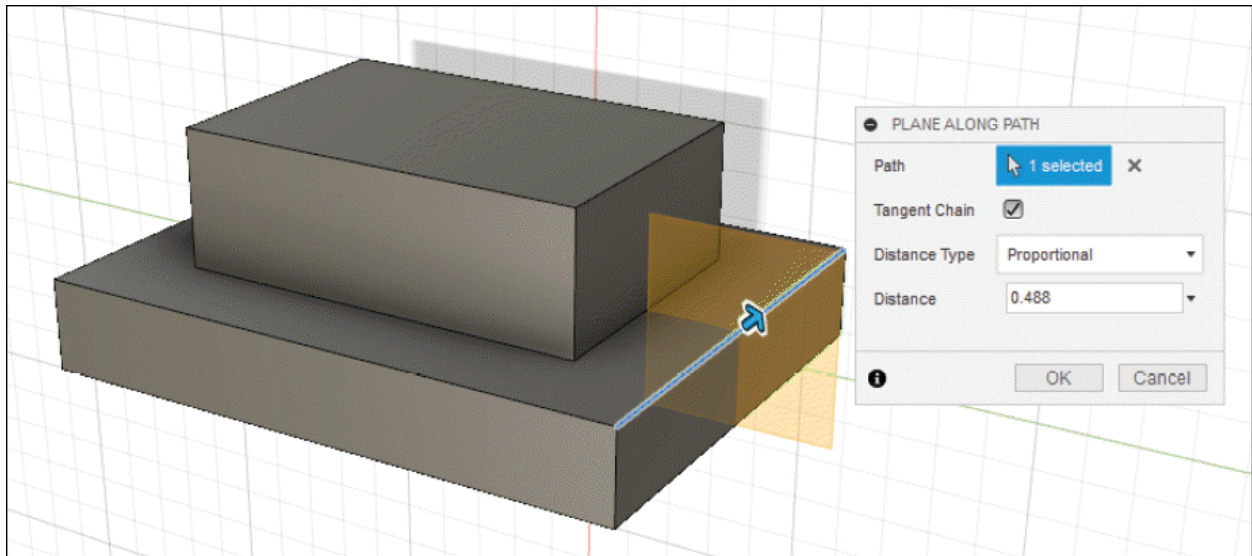

Figure-100. Preview of plane along path
- On selecting the path, the updated **PLANE ALONG PATH** dialog box will be displayed along with the preview of plane; refer to Figure-100.